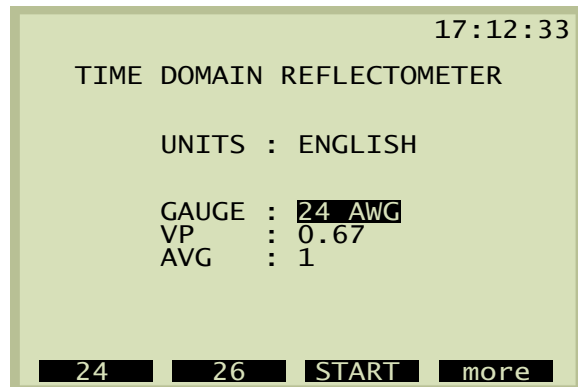

Figure 8 TDR setup screen
3. Configure the Setup screen. Refer to Figure 8.